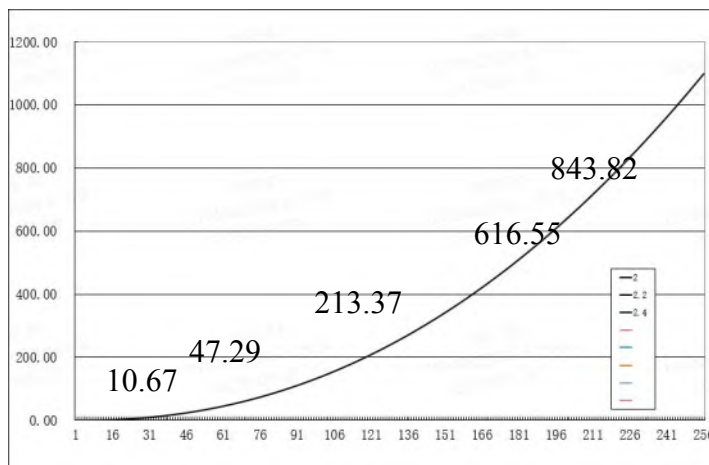

Figure 10. Brightness and Gray-scale Contrast
4. The electro-optical response time measurements shall be made as Figure 10 by switching the “data” input signal ON and OFF. The times needed for the luminance to change from 10% to 90% is T_r , and 90% to 10% is T_f .
The electro-optical response time measurements shall be made as shown in Figure 10 by switching the “data” input signal ON and OFF. Tr: The luminance to change from 10% to 90% ,Tf: The luminance to change from 90% to 10% .